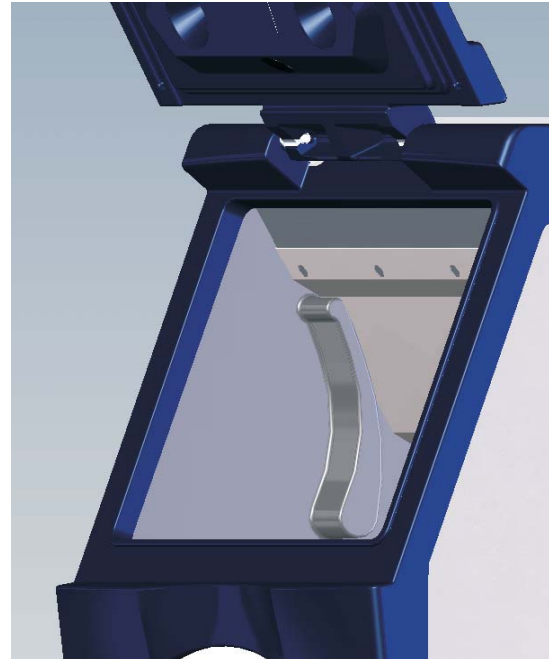

Figure 1
3. Place that edge of the baffle onto the front of the canopy. Use the open holes in the baffle as a template to mark the drilling locations on the bin canopy. See figure 1.